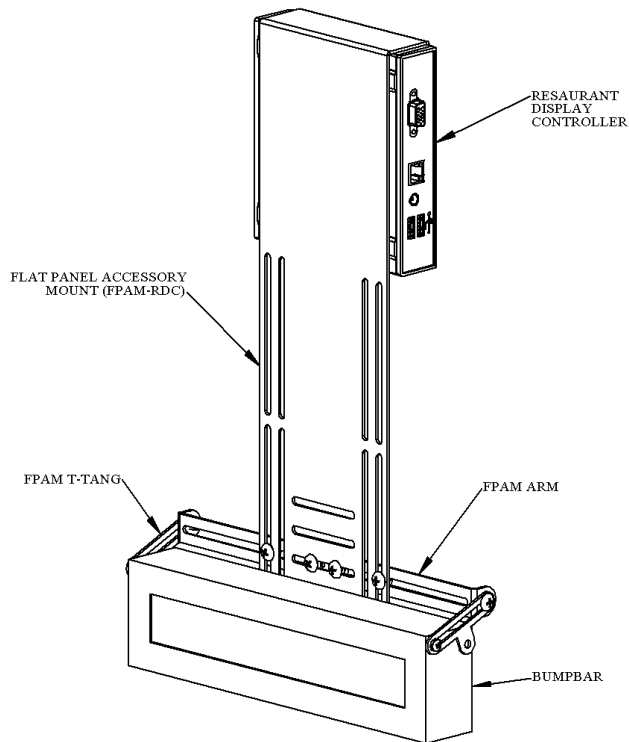

Figure 2 - FPAM-RDC with Restaurant Display Controller
6. Assemble the hardware kit to create two arms so that the slots in the arms or tee tangs align with the chassis screw holes on the sides, bottom, or back of the bump bar, and the other ends of the arms align with the slots on the FPAM-RDC mounting plate (See Figure 2).